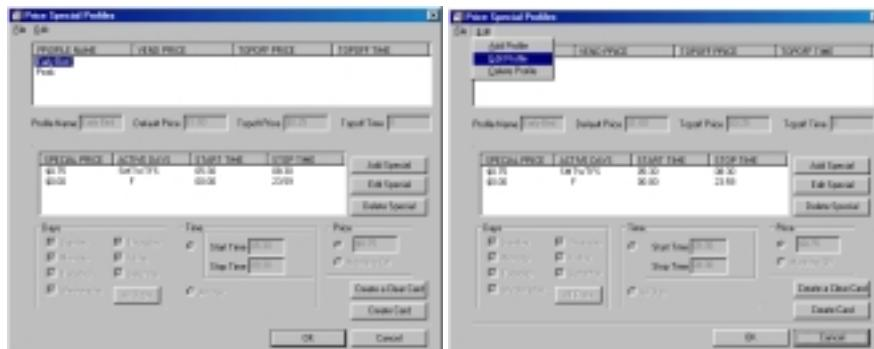

Figure 8.18 Editing a Profile
1. In the Price Special Profile window select the Profile to edit from the Profiles List Window (Figure 8.18).
2. Select Edit Profile from the edit drop-down menu (Figure 8.18).